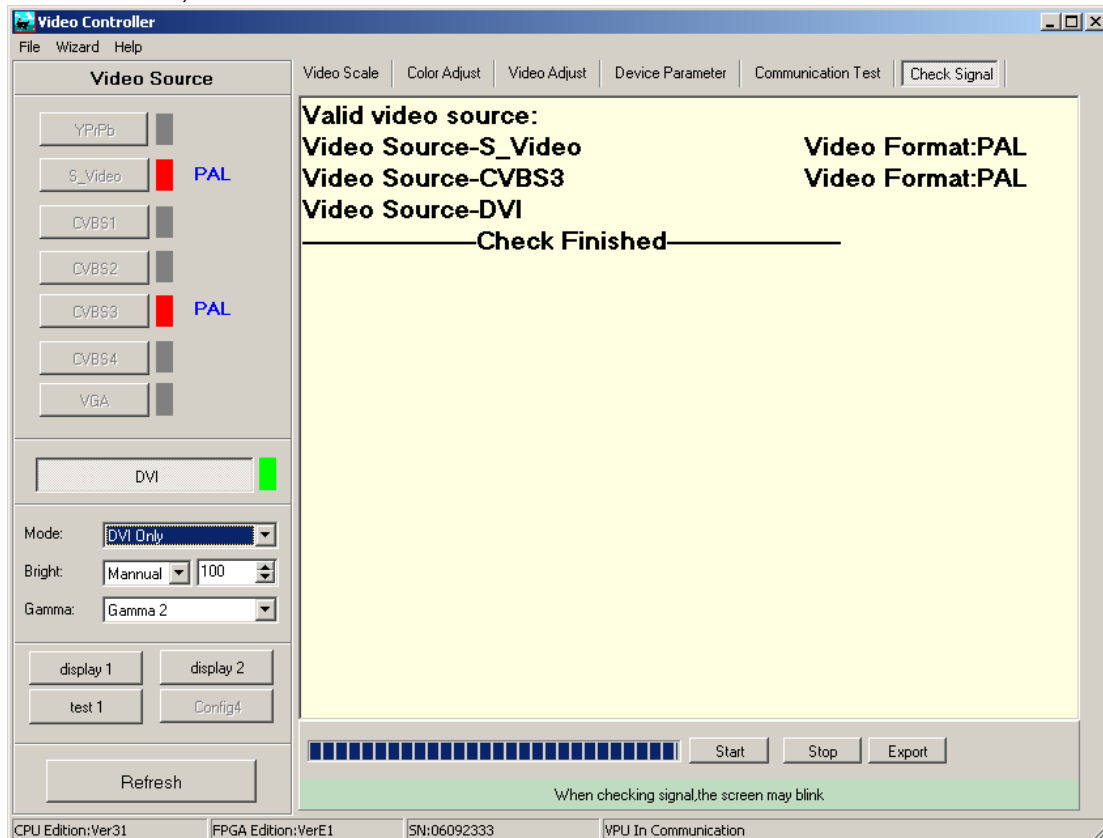

Figure2.2 Search Signal input result interface,
- Click "Start" button to search video signal. The LED sign will flash when searching video signal. After searching, you will find a window Figure2.2. The valid video sources are S-video, CVBS3 and DVI.